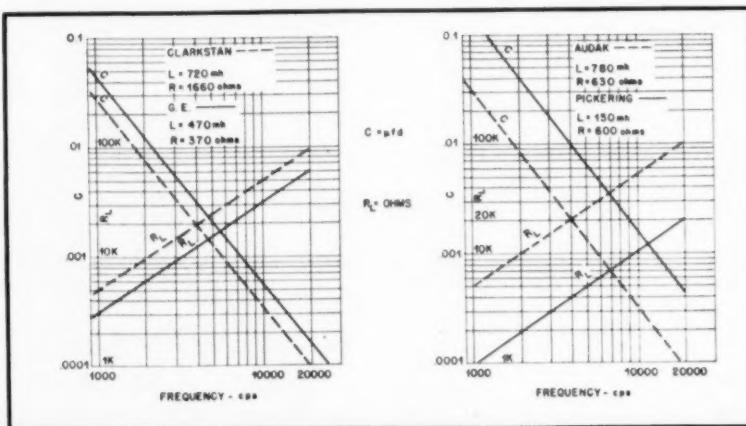
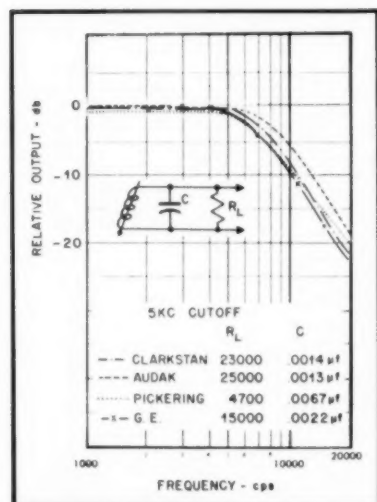
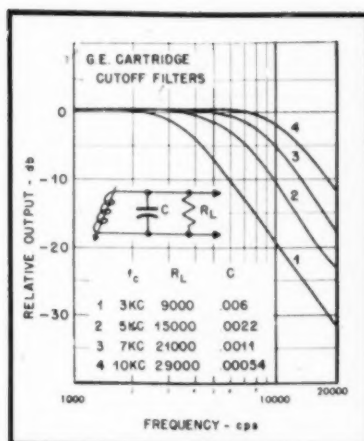

Fig. 5. Values of R_L and C for various cutoff frequencies for the four pickups.
Fig. 14. Curves showing 5000-cps cutoff for the four pickups when shunted by resistors and capacitors shown in the legend.
Fig. 15. Curves showing low-pass filter effect on response of GE RPX-050 pickup when shunted with capacitances and resistances indicated.
cutoff frequencies are shown in Fig. 5, for each of the four pickups calculated. For any cartridge at any desired cutoff frequency the values of R_L and C may be read directly from the left-hand scales.
When the values of R_L and C satisfy the relationships expressed by Eqs. (3) and plotted in Fig. 5, a low-pass constant- K filter network results. To indicate the kind of result to be expected with each of the four pickups, Fig. 14
was prepared, using values selected from Fig. 5 for a cutoff frequency of 5000 cps. As might be expected, the sharpness of cutoff varies from unit to unit according to the Q of the coil. This Q cannot completely be represented by $\omega L/R$ where L is the coil inductance and R the coil and lead resistance. The actual Q depends on the a.c. losses (eddy currents, hysteresis, etc. in the soft-iron magnetic structures in the pickup) as well as the d.c. resistances. However, it was found that in devices of the type being discussed here, the discrepancy between calculated and measured response was less than the probable error of measurement.
To indicate what can be done with the cut-off filter effect, a single pickup was provided with four different sets of terminating R - C combinations selected from Fig. 5; Fig. 15 shows the results for 3000-, 5000-, 7000-, and 10,000-cps cutoff frequencies. It will be seen that